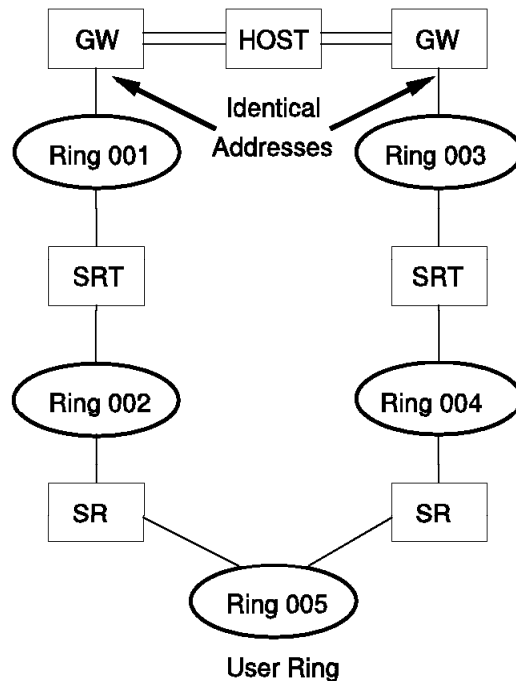

Figure 34. High-Availability Design and SRT
- If duplicate addresses are used, make sure there is at least one source route bridge in each path between two adapters. That way, the duplicate address is guaranteed to appear in a transparent bridge frame on at most one port of any SRT bridge in each path. See Figure 34 on page 68 for an example of high-availability design and SRT.